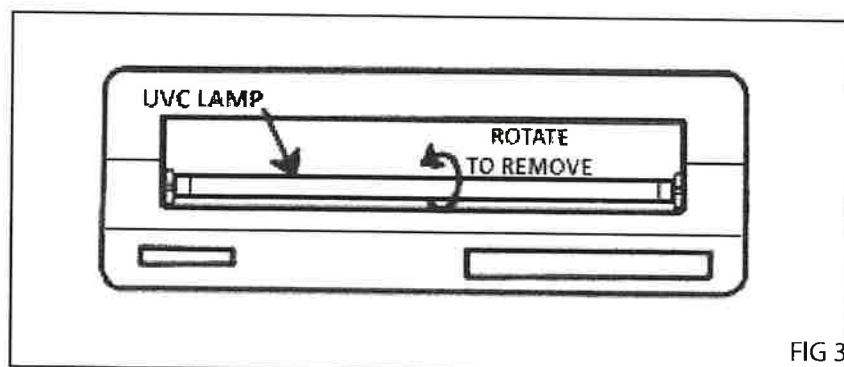

FIG 3
3. Rotate the Ultraviolet Lamp one-quarter turn, top to rear, (FIG 3) and remove lamp.